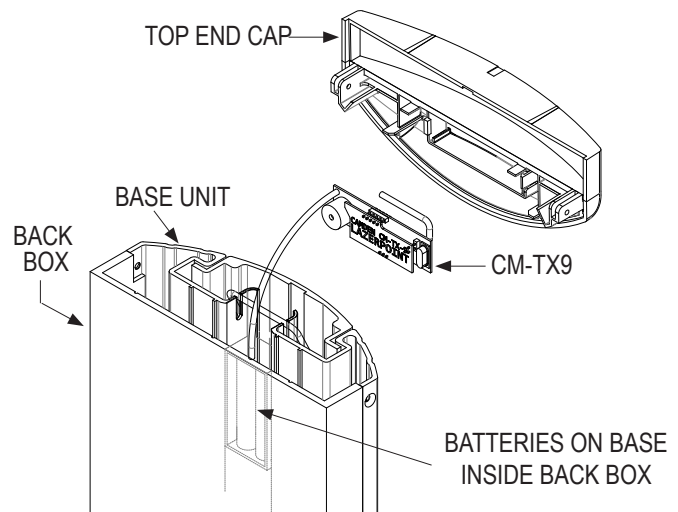

Figure 4.6 Transmitter Assembly
**Wireless RF Options:****IF USING LAZERPOINT™ RF: (Figure 4.6)**
4. Slide the battery and the extra wiring into the center (rear) channel provided. Do not slide all of the wire into the channel so that the cap can hang off to one side while you perform the next step. (Figure 4.6)